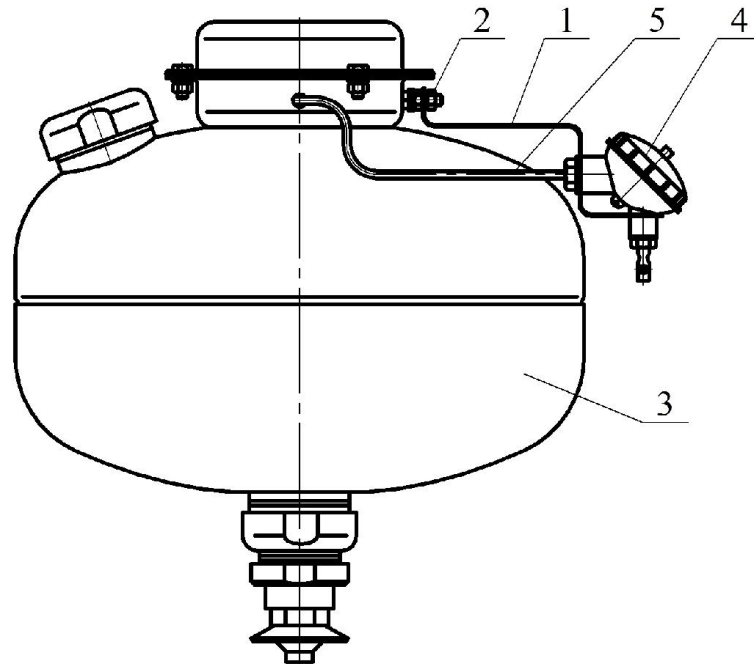
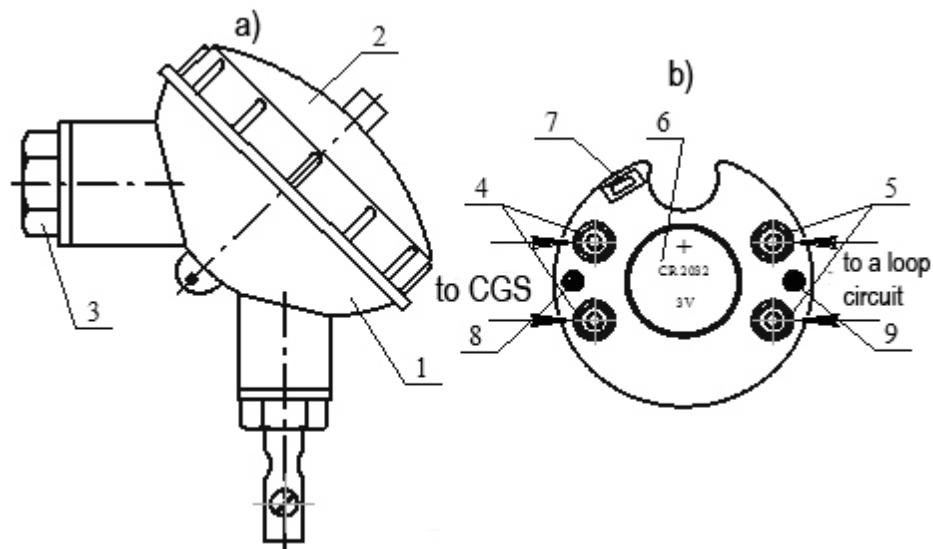

Figure 2
Figure 4
4.3.1.1 Electronic launching unit 5 (thermal launching device) is mounted on a bracket 1, fastened with nut 2 on earth clamp 3 of module frame 4 (see Figure 2). Electrical triggering element CGS outputs 5 inserted in PVC pipe are connected with electronic launching unit 4 through a hermetic input.
6.7.2 Fasten bracket 1 with nut 2 (see Figure 2) on WSFEM case.
6.7.3 Turn off cover 2 and screw 3 from case 1 of electronic launching unit (see Figure 4). Lead wires of CGS electrical triggering element and, if necessary, wires of a
fire alarm loop circuit in hermetical input of electronic launching unit through holes of screw 3 (see Figure 4) and bracket 1 (see Figure 2). Fasten electronic launching unit on the bracket with screw 3 according to Figure 2.